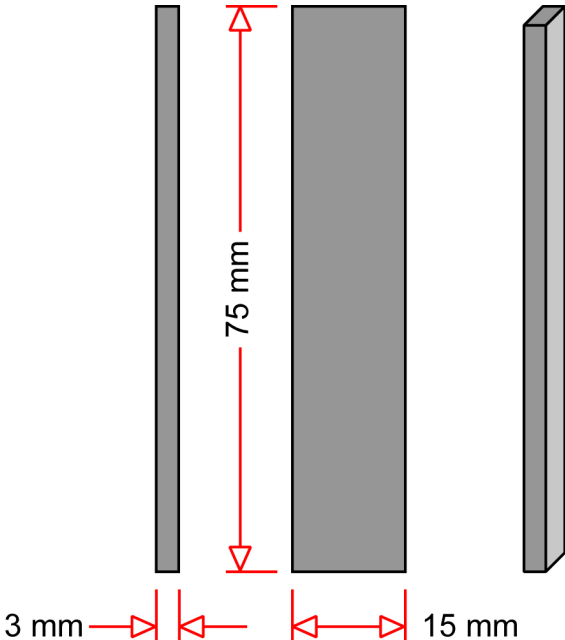

Figure 4-5: Ringseal Removal Tool Dimensions
- Step 4: With the collet and collet nut removed, the ringseal will now be exposed. Using a tool dimensioned in Figure 4-5, unscrew the ringseal from the collet sleeve.